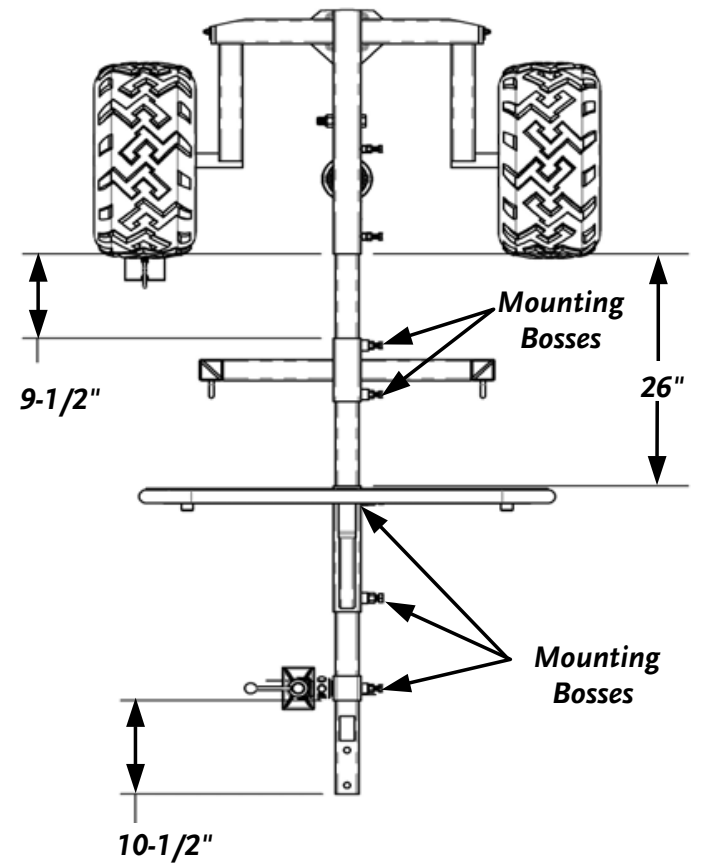

Figure 16
1. Slide the Front Bed Support onto the Tow Bar with the Mounting Bosses facing the Left, 9-1/2" from the end of the Main Frame (**Figure 16**).
3. Slide the Operator Guard onto the Tow Bar with the Mounting Bosses facing to the Left, 26" from the end of the Main Frame (**Figure 16**).
5. Slide the Trailer Jack 10-1/2" onto the Tow Bar (**Figure 16**), with the Mounting Boss facing the Left side of the Trailer. Tighten the M16 x 50mm Trailer Jack Bolt and M16 Jam Nut with a 24mm Socket and Wrench.